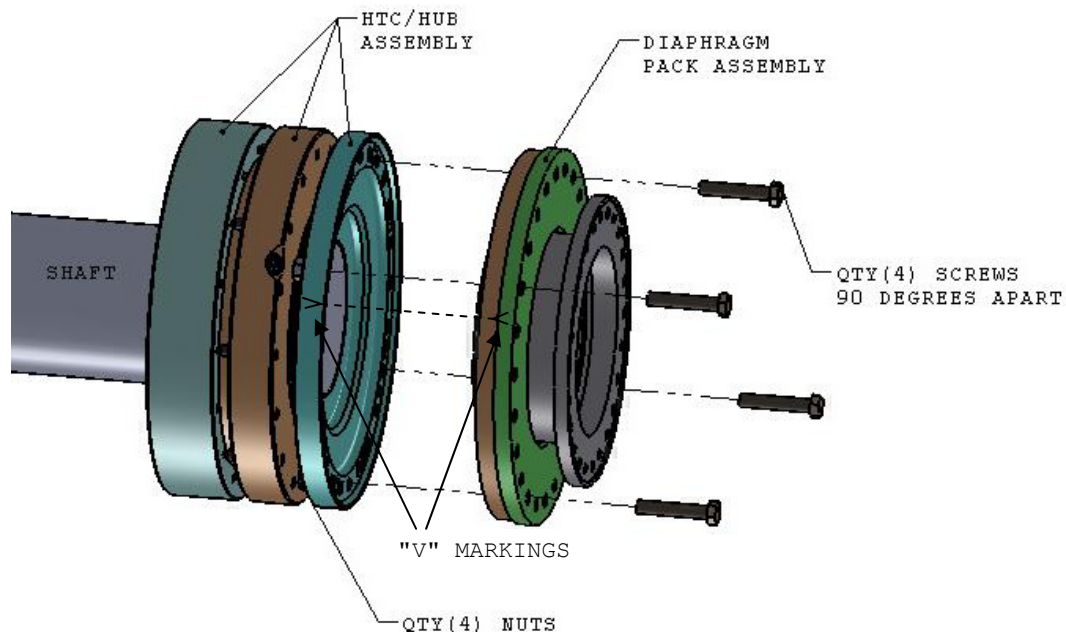

Figure 6 - Diaphragm Pack Installation
3.1.4 Install one of the diaphragm packs onto the hub as shown in Figure 6 using Qty(4) supplied bolts and nuts spaced 90 degrees apart. Be sure the 1/4"-28 jacking tap holes located in the diaphragm pack do not line-up with any holes in the HTC hub flange. "V" marks may be located on the hub and diaphragm pack rims as an aid (see Figure 6). Aligning the V marks, although not required, will ensure the jacking taps are in the correct position. Tighten the bolts in a criss-cross pattern to seat the pilot. (Reference Form 367-SH, section 4.5.1.3)